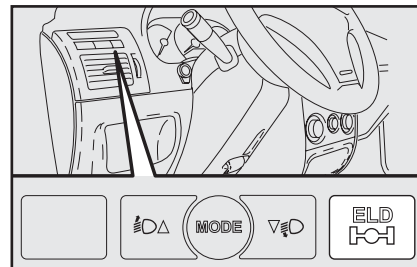

fig. 101
- press the ELD button-fig. 101 located on the dashboard to the left of the steering wheel; the system emits a long beep, the ELD warning light on the instrument panel starts to blink and the display shows a dedicated message (ELD ON for 5 seconds);